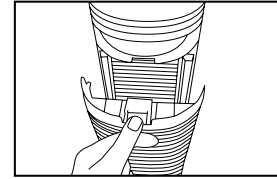

Fig. 1
1. To check filters, open the rear cover by gently pushing down on the release tab on the top of the rear grill cover. Fig. 1